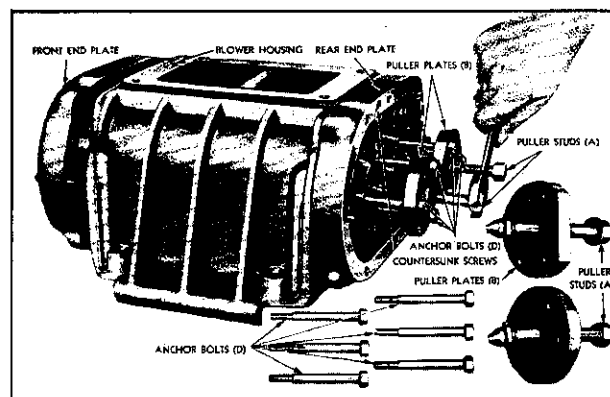

Fig. 5—Pressing Rotor Shafts from Rear Bearings and Front End Plate from Housing.
7. **Remove Rotor Shafts From Rear Bearings and Front End Plate From Blower Housing.** This procedure applies to blowers on which the rotors and housing have not been scored to the extent that withdrawal of rotors assembled to the front end plate will not further damage rotors. If rotors and blower housing are badly scored, rotor shafts should be pushed from bearings in front end plate before withdrawal, as outlined in item (8) below.
- (b) Back out puller studs (A) in puller plate (B) as far as possible. (See Fig. 5.)
- (c) Install the three anchor bolts (D) in the three equally spaced holes of each puller plate and screw anchor bolts in holes from which